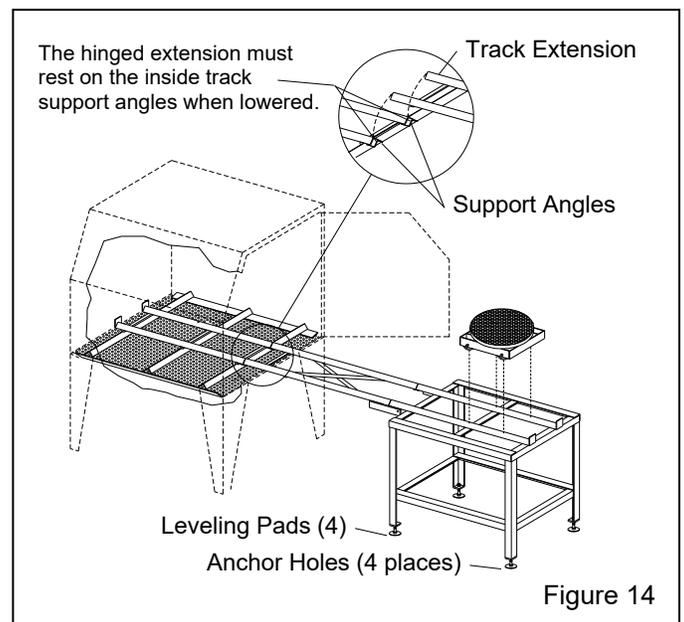

Figure 14
3.4.3 Position the track support table and extension, as shown in Figure 14. When the hinged extension is lowered, the extension tracks must rest on the angled locating supports welded to the bottom of the inside tracks, and butt against the inside tracks.